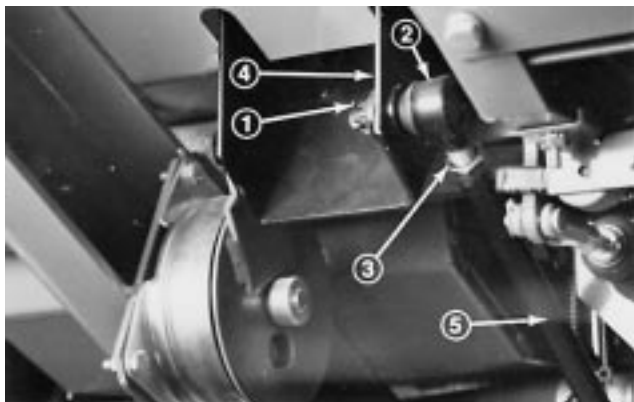

Figure 74
2. Remove cotter pin and slotted nut from ball joint at traction pedal (Fig. 74). Disconnect ball joint from traction pedal.